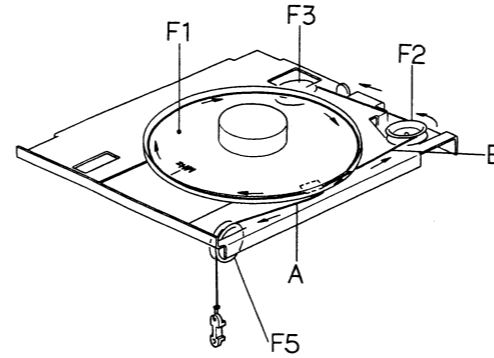

Fig. 5.4
(5) Refer to Fig. 5.4. Winding around F1 (dial pulley), pass the thread A via F5 (pulley). Pass the thread B above the thread A around F1, then send B along via F2 and F3.